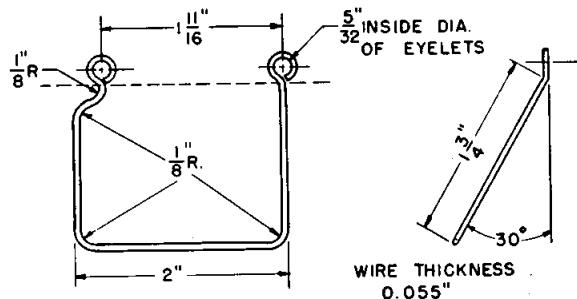

FIGURE 1.—New crystal clamp for model AN/APN-9.
*General.*—Shock and vibration tests at NRL indicate that difficulty may be experienced from the crystal holder coming out of the socket. This change provides added stiffness to the crystal holder spring. Figure 1 shows